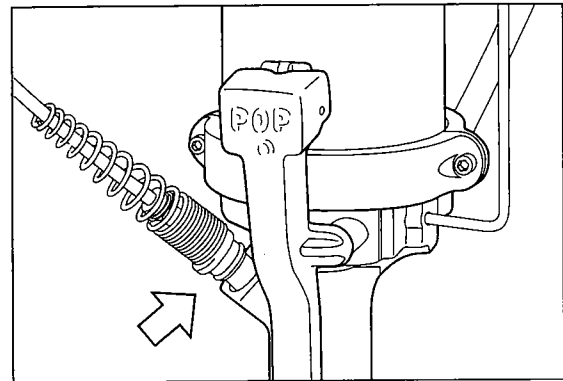

Figure 18
4. Re-attach the slide to the tool and resume work. (See Figure 18)